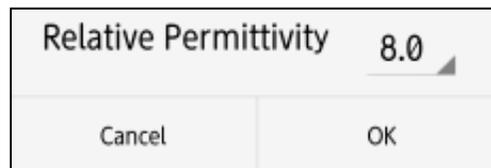

Figure 4-23 Relative permittivity setup screen
- (1) Tap Device setting: **[Relative permittivity]** menu. Then the relative permittivity setup screen (Figure 4-23) appears. The current setting is shown in the screen.
- (2) Tap the setting value (**8.0** shown in Figure 4-23). Then the list of the available setting values appears.
- (3) Scroll the list and tap a desired value as the relative permittivity.
- (4) Confirm the selected value is shown in the screen as the current setting.
- (5) Tap **[OK]** to return to the parameter setup screen. To cancel the setting change, tap **[Cancel]**, then the screen returns to the parameter setup screen without setting change.
- (6) Tap **[Return to the main window]** to return to the main screen.